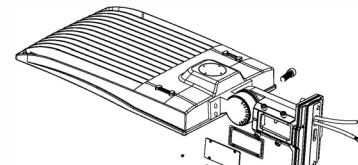

Figure 7
Step 1. Remove the bracket mounting screws on the fixture and run the wires through the bracket (Figure 7)